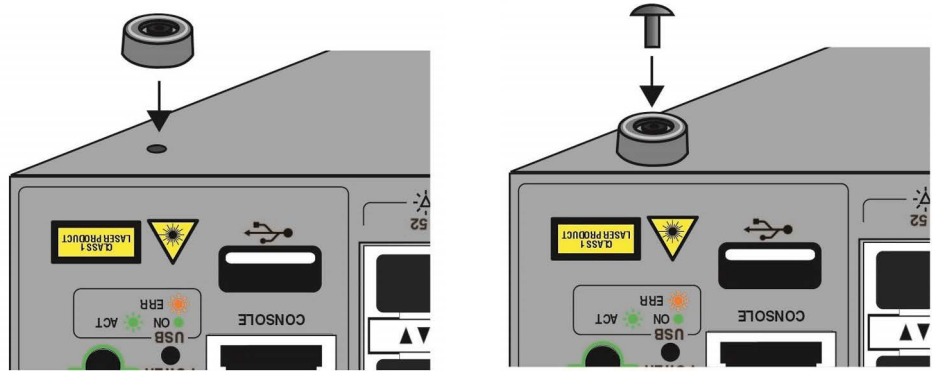

Figure 27. Attaching Bumper Feet on the GS970EMX/52 Switch
- b. Insert a rivet to secure the bumper foot. Refer to Figure 27.